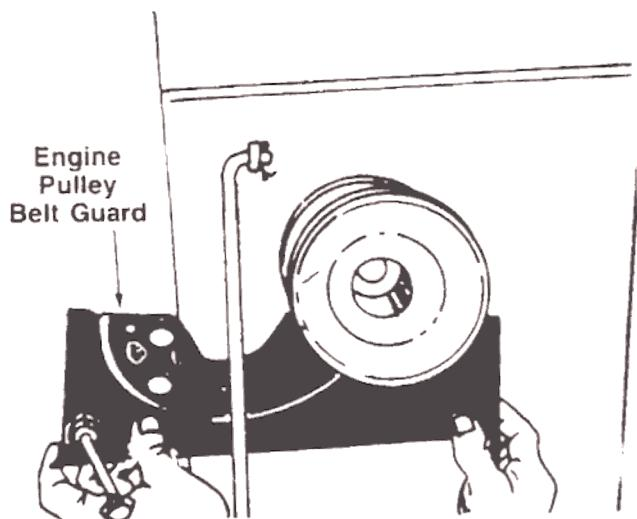

FIGURE 23.
- Remove the engine pulley belt guard by slipping it back and to the right. See figure 23.